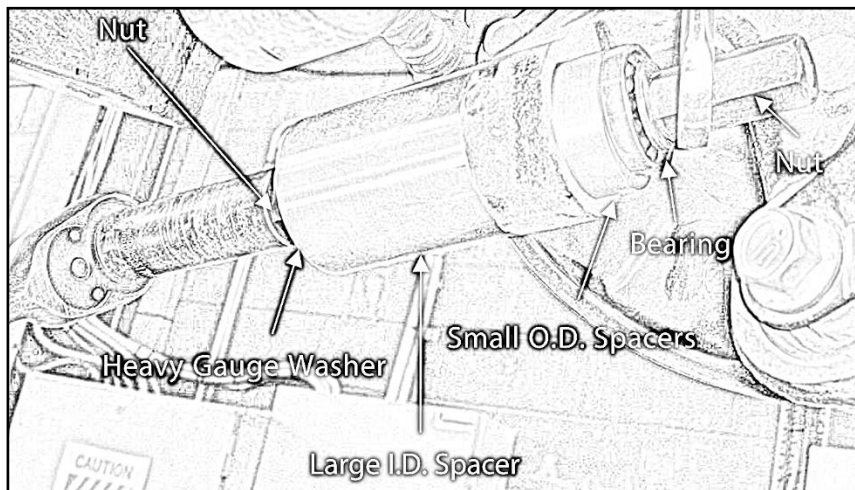

Figure 2: Press Tool Setup (Illustrative Purpose)
- Setup press tool assembly to extract the factory bushes (refer Figure 2 below for example).